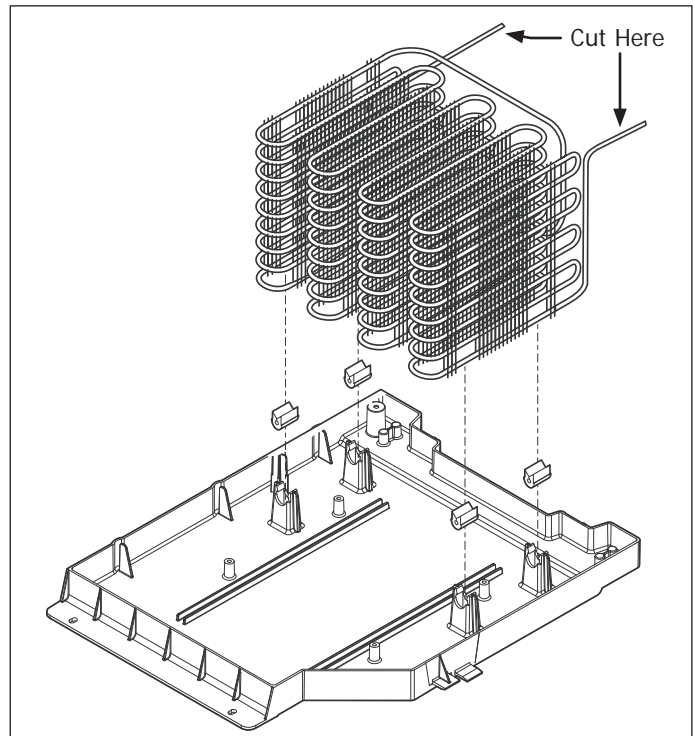

Figure 5-29. Condenser Coil Removal
5. Disconnect inlet and outlet lines from condenser coil. (See Figure 5-29)